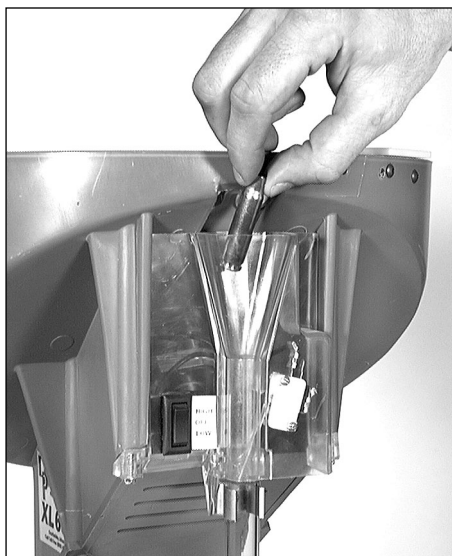

FIG 80
3. Drop a lubricated case into the case-feed funnel FIG 80. Here the case drops to the casefeed arm bushing.